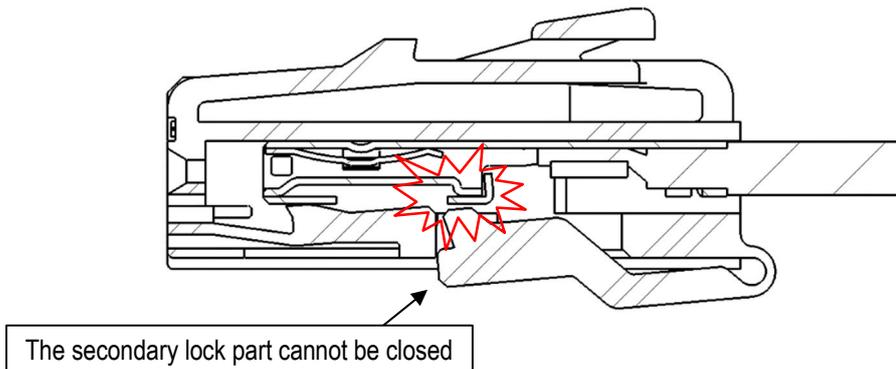

Fig.29. Insufficient the secondary lock part engagement
③ When terminal(s) is/are insufficiently inserted as shown in Fig.29, the secondary lock part cannot be closed.